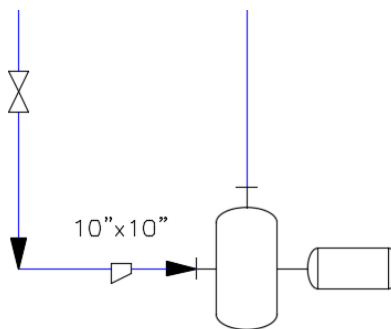

Figure 2-78 A gate valve placed on the line connecting the first pump
2. Place a gate valve on the same line, refer to Figure 2-78.